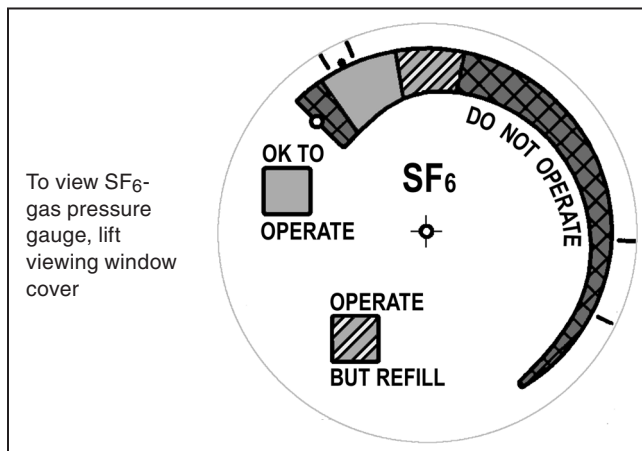

Figure 6. Gas pressure gauge.
STEP 1. Make sure that the SF₆-gas pressure gauge is in the green zone (or the green and yellow striped zone). See Figure 6.